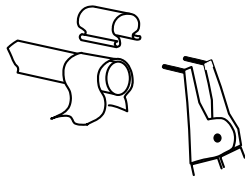

Fig.5. - Use of Clip Tool
*Replacements:* make a note of the actual braid and cable connections to the elements. From rod elements disconnect the clips with the special tool provided (or with finger pressure, depending on the type of clip fitted), lift off the braids and carefully withdraw each element. See fig.5.